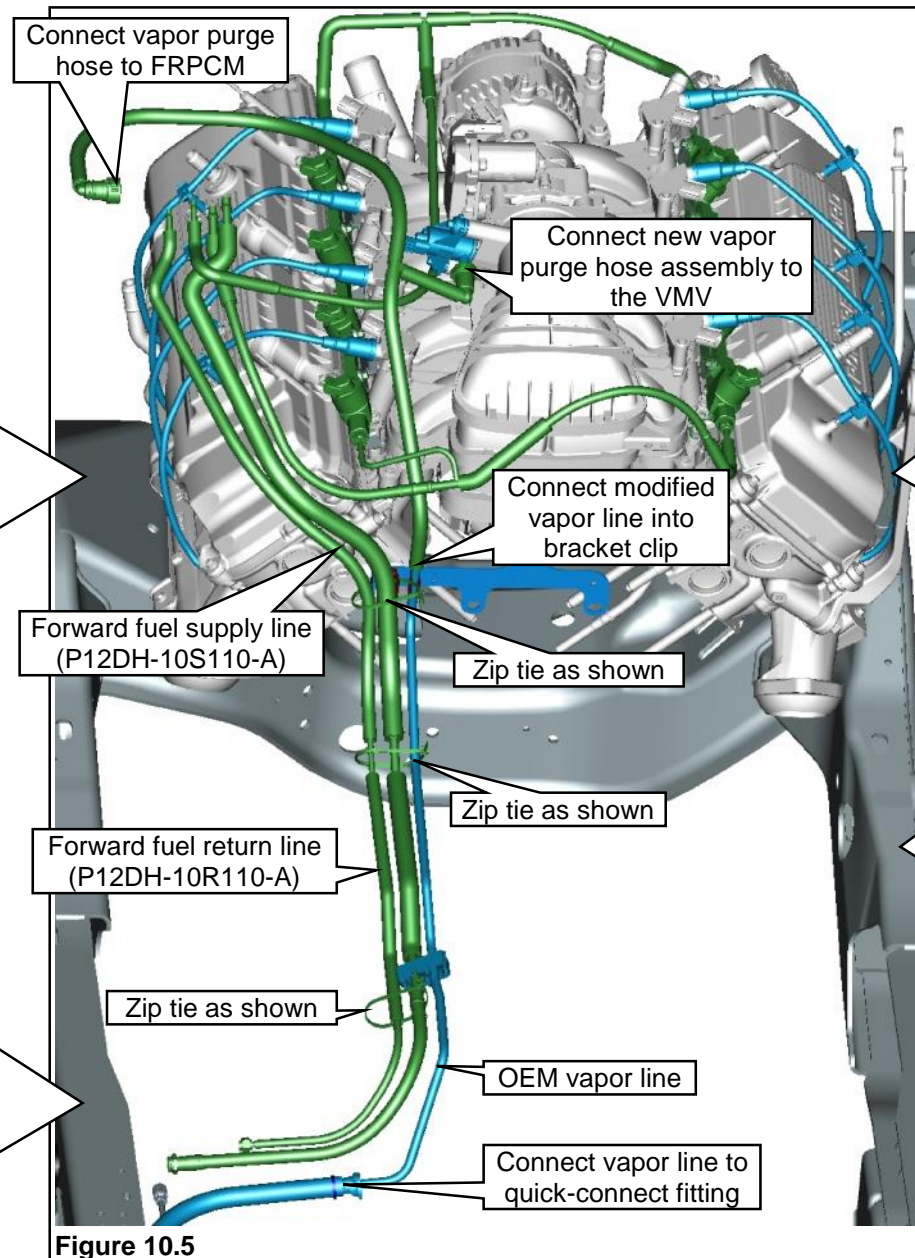

Figure 10.5
4. Install the modified vapor line with new vapor hose to its original position. Plug the short end of the purge hose onto the VMV. The longer end quick-connect fitting plugs onto the FRPCM after it is installed. **Figure 10.5.**